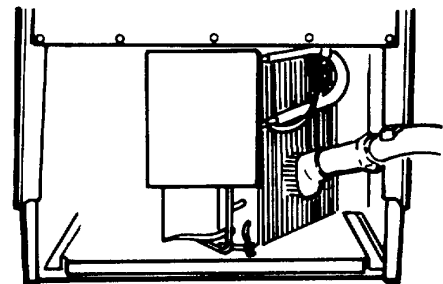

FIGURE 3
4. Remove dirt and lint from the condenser fins with a soft brush and then use a vacuum cleaner to remove the dirt from the unit compartment (Figure 3).